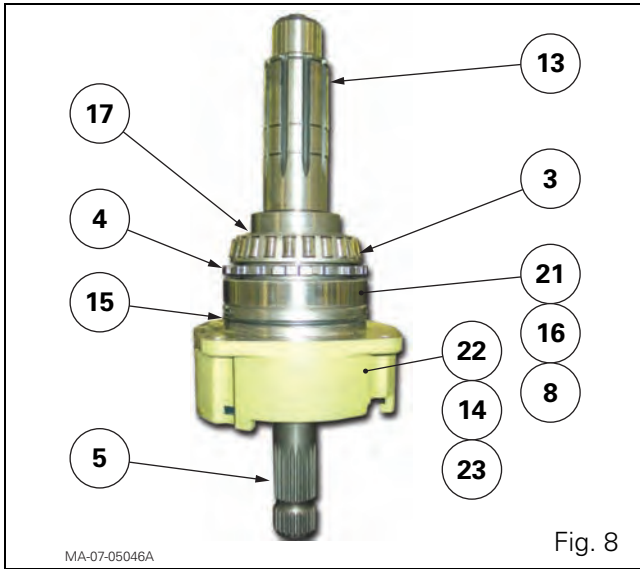

Fig. 8
27. Place the PTO housing flat on a workbench in order to allow removal of the shiftable output shaft (13).
29. Remove the 540/1000 rpm or, optionally, 750/1000 rpm driven pinions (7) (18) (see § B);
30. Loosen the screws (2).
31. Remove the rear bearing (22)/output shaft (13) assembly which consists of (Fig. 8):
- the cassette seal (14);
- the O'ring (15);
- the shim(s) (23);
- the cup (21);
- bearing cones (3) (8);
- castellated washer (4);
- circlips (16) (17).
32. Remove the cup (19) from the rear PTO housing.
33. Remove from the shiftable output shaft (13):
- the circlip (17);